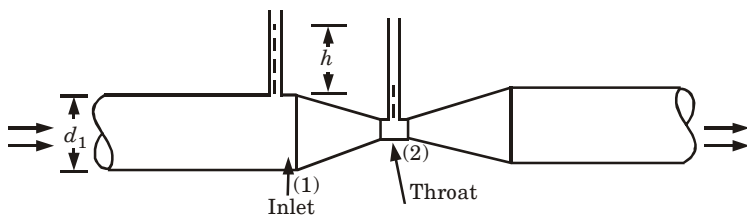

Fig. 1.12.1.
4. As shown in Fig. 1.12.1, a venturimeter is fitted in a horizontal pipe through which a fluid is flowing.